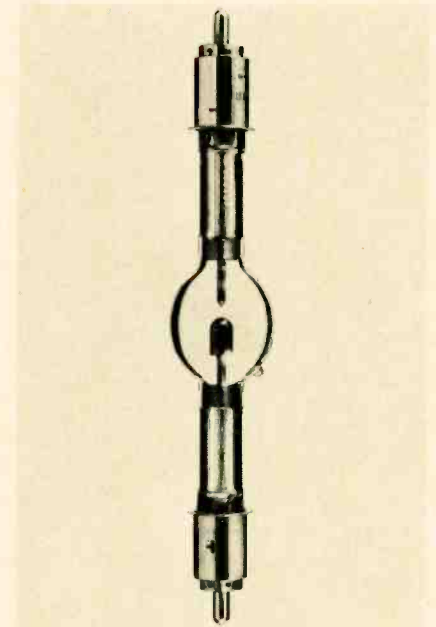

Fig. 1—Xenon arc lamp.
■ Many industrial processes require an extremely intense source of visible and ultraviolet light. Until a few years ago, the only available source of light at these wavelengths was the bulky, erratic carbon arc lamp. But the carbon arc now is being phased out in favor of the more reliable, compact xenon arc (XA lamp), shown in Fig. 1. As the field of applications for these lamps expands, it is increasingly likely that the industrial electronic technician will eventually be faced with the problem of diagnosing and servicing these units. And here are some hints to make the job easier.